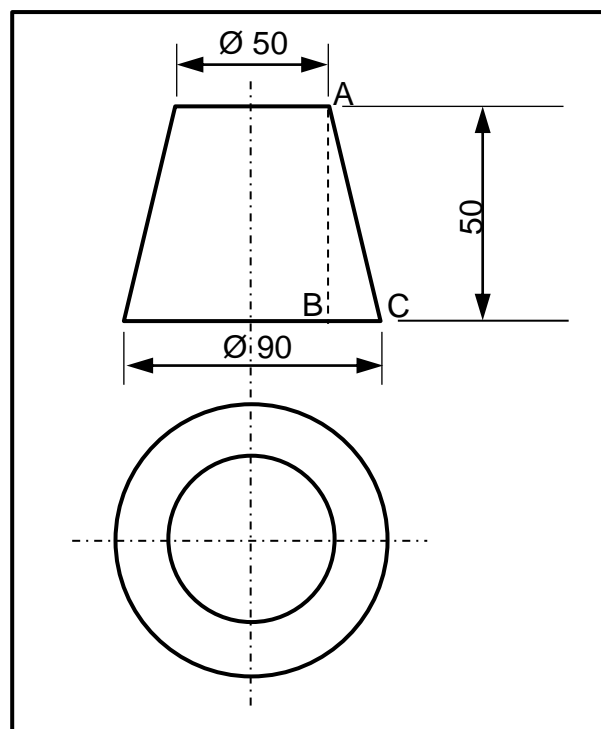

FIGURE 11.1
- 11.1 Study FIGURE 11.1 below and calculate the true length of **AC**. Round off answer to the nearest whole number.